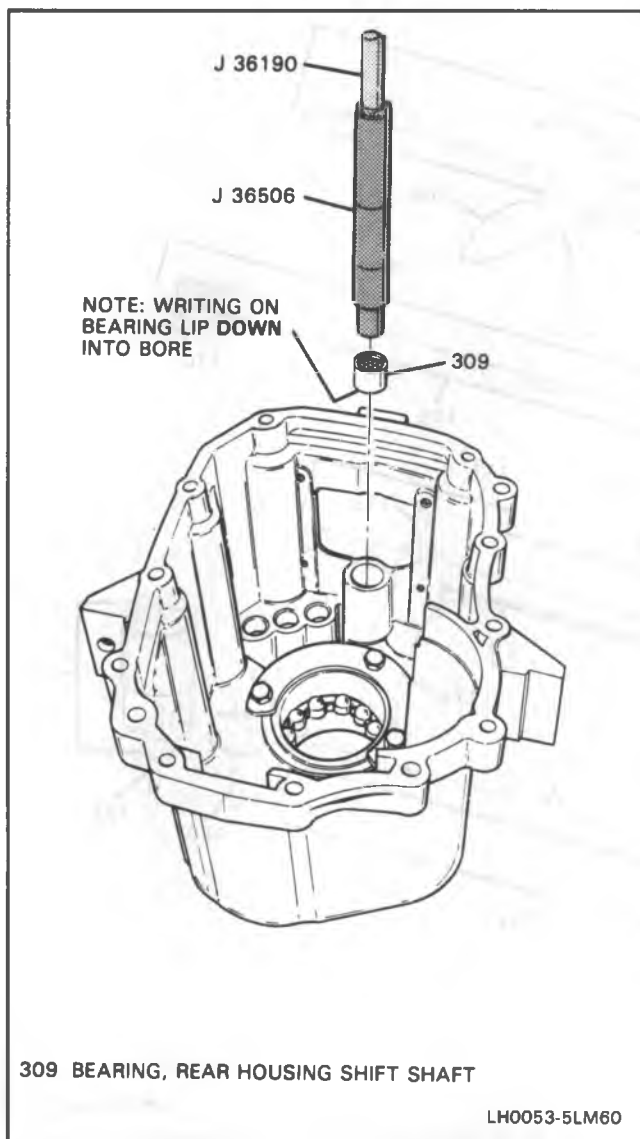

Figure 52 Shift Shaft Bearing Install
2. Rear housing shift shaft bearing (309), using J 36505 and J 36190 (Figure 52).